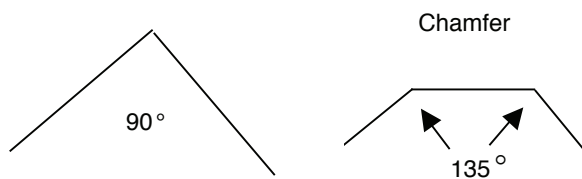

Figure 2. Chamfering reduces a sharp 90° corner to two 135° corners.
3.1 Outside corners and sharp edges can be ground such that the edge is rounded to a 1.6 to 3.2 mm (1/16 to 1/8 inch) radius. An alternative to rounding is to chamfer the edge to a specified measurement, so instead of one 90-degree corner, there are two 135-degree corners (see Figure 2). The width of the flat ground area, i.e. the distance between the two 135-degree corners, is usually 1.6 to 3.2 mm (1/16 to 1/8 inch). Paint will not pull away from a 135-degree corner as much as from a 90-degree corner, resulting in more overall coating thickness. Further, subsequent abrasive blast cleaning provides some radius to the 135-degree corners.